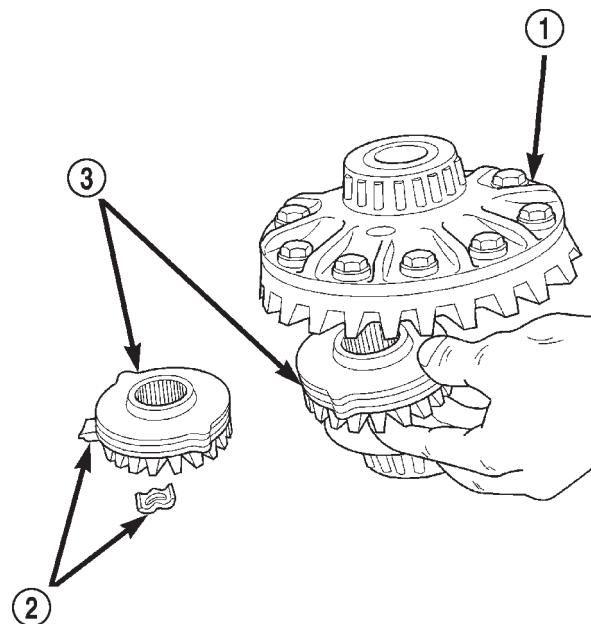

Fig. 60 Side Gear & Clutch Disc Removal
(15) Remove Forcing Screw C-6960-4, Step Plate C-6960-3, and Threaded Adapter C-6960-1.
(16) Remove top side gear, clutch pack retainer, and clutch pack. Keep plates in correct order during removal (Fig. 60).